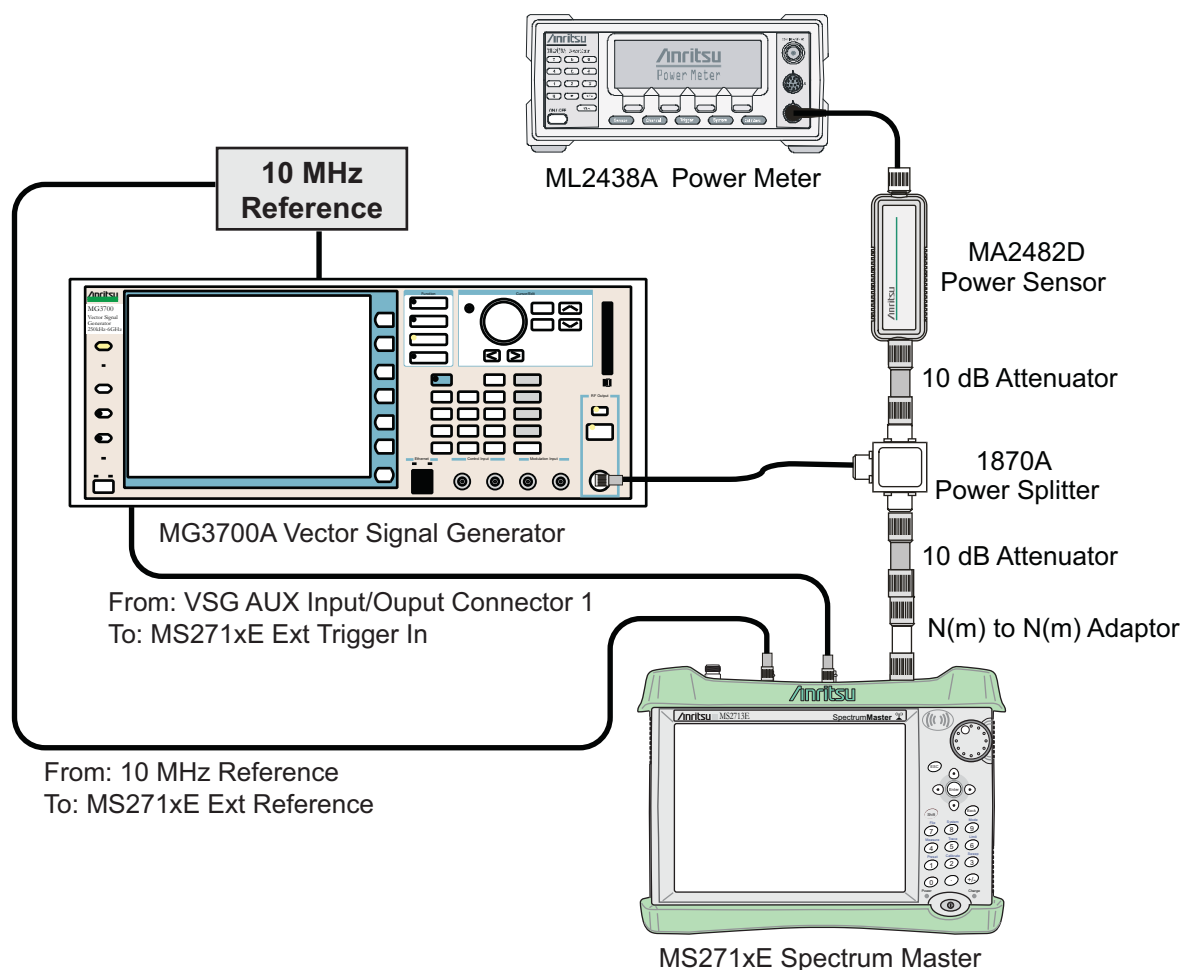

Figure 3-13. Fixed WiMAX Signal Analyzer Option Verification
3. Connect the equipment as shown in Figure 3-13.